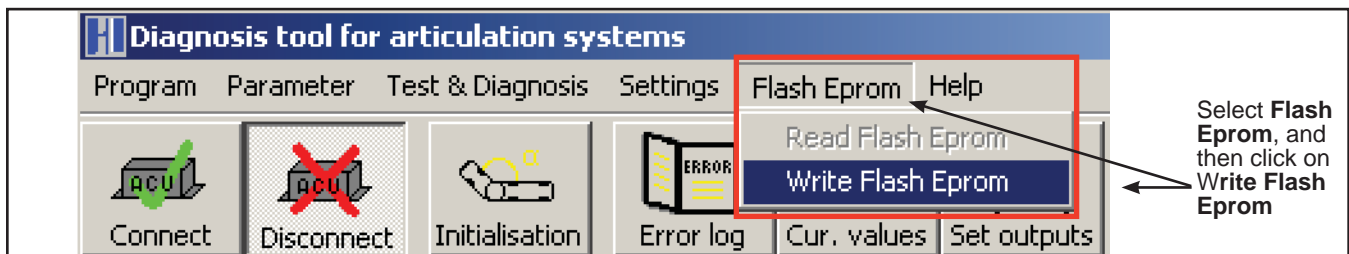

Figure 6 - Steps to Download
1.11.1. Select FLash Eprom. See Figure 6.
- 1.11.2. Select Write FLash Epron from the dropdown menu. See Figure 6.